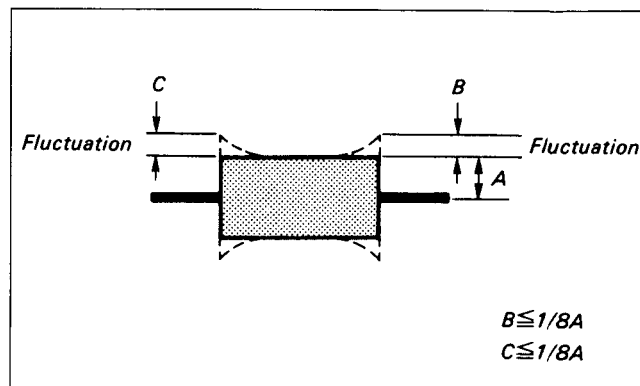

Fig. 7-81.
- 4) Check that the fluctuation amount of RF waveform entrance and exit sides both is as shown in Fig. 7-81.